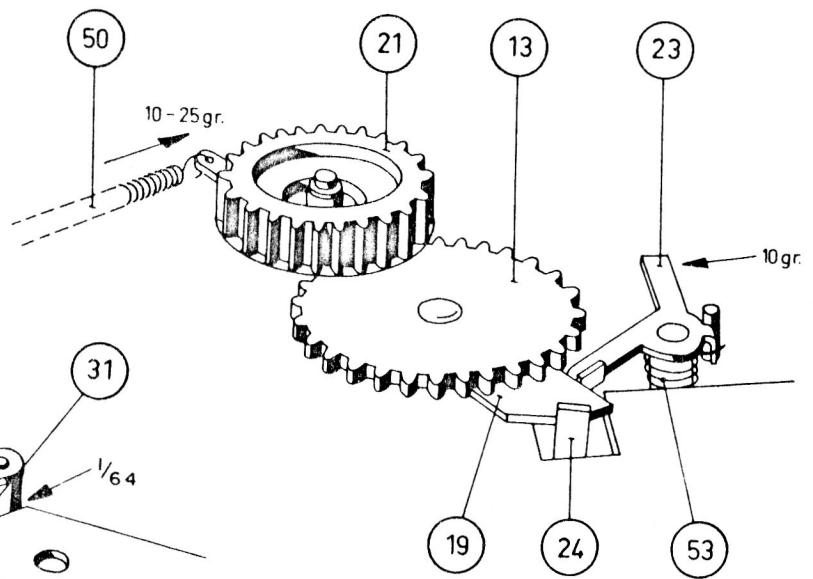

Fig. 9
4. The spring on gear bracket 19 must have a tension ranging from 10 to 25 grams measured at the stop (see Figure 9).